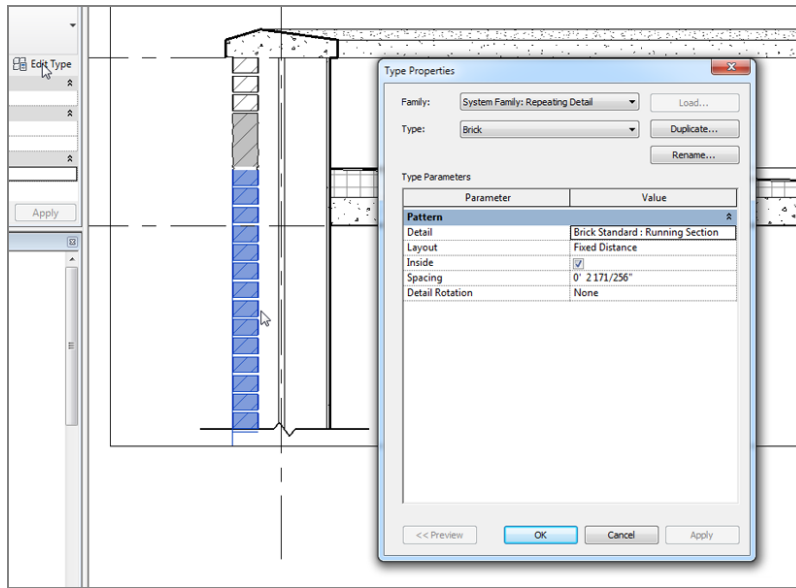

FIGURE 12.33 : Click the Edit Type button after selecting one of the brick repeating details.
2. Select one of the repeating details, as shown in Figure 12.33.
3. In the Properties dialog, click Edit Type, as shown at the upper left in Figure 12.33.